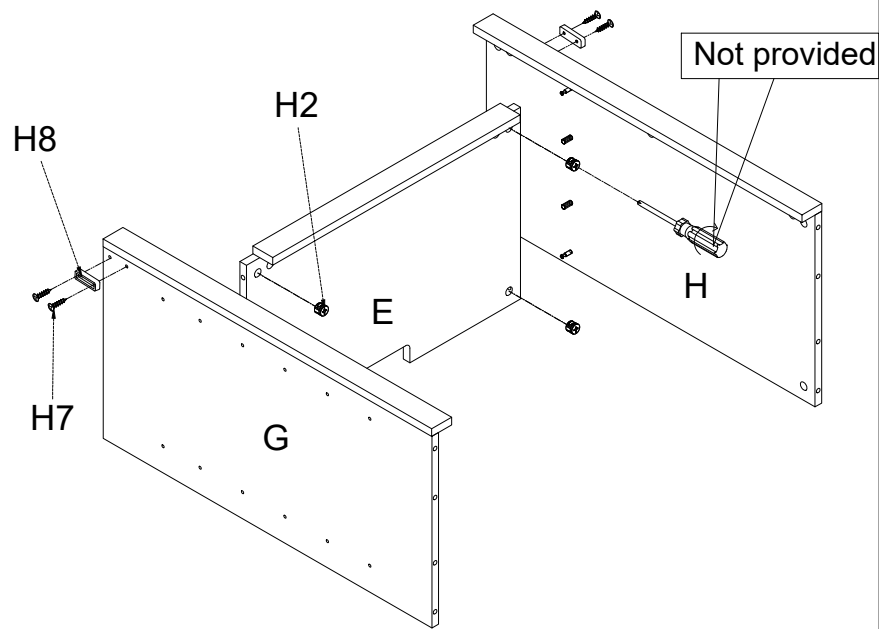

Figure 6
With assistance from another adult, hold Middle shelf (E) and Left partition (G) vertically as shown in figure 6. Slide the Cam bolts (H1) and the Short wood dowels (H3) of Left partition (G) into the corresponding holes of Middle shelf (E) and secure in place with Cam lock (H2) using screwdriver (Not provided). Repeat this process to attach Right partition (H) to Middle shelf (E) as shown in figure 6. Align the Door block (H8) with the pre-drilled pilot holes in the Left partition (G) and Right partition (H) and attach with Round head screw (H7) using screwdriver (Not provided) as shown in figure 6.